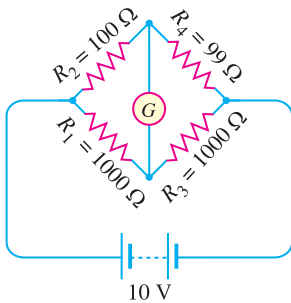

Fig. 1.52
7. Using Thevenin's theorem, find the current through the galvanometer in the Wheatstone bridge shown in Fig. 1.52. **[38.6 μA]**